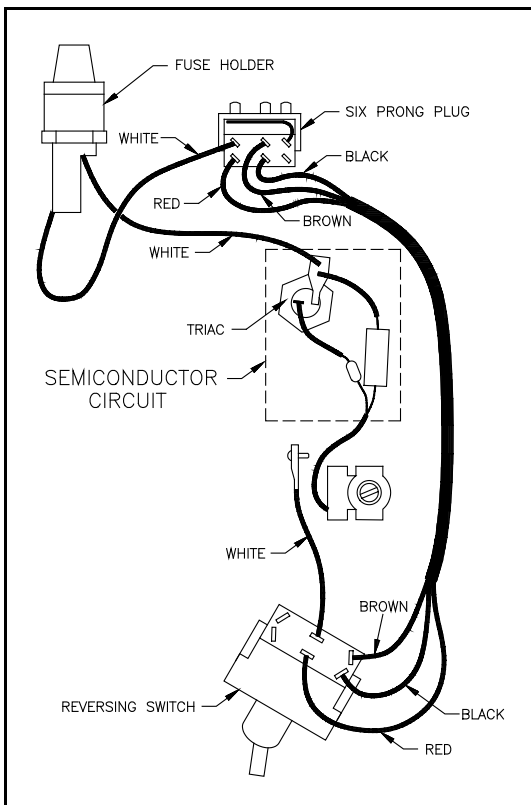
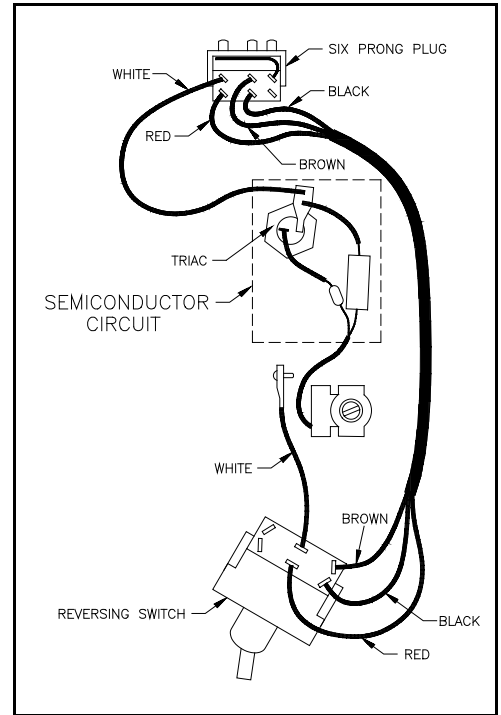

Figure 2. Wiring diagram
Figure 3. Wiring diagram - no fuse
- 4.6 Connect the white wire that comes from the triac to the fuse holder. Make sure the white wires are connected to the fuse holder as illustrated in Figure 2. (If the foot control does not have a fuse, cut the connector from the end of the white wire. Strip the wire 3/16" and solder it to the terminal of the six prong plug. See Figure 3.
- 4.7 Connect the white wire that comes from the heat sink (brass bracket) to the correct terminal on the reversing switch. See Figure 2 or 3.